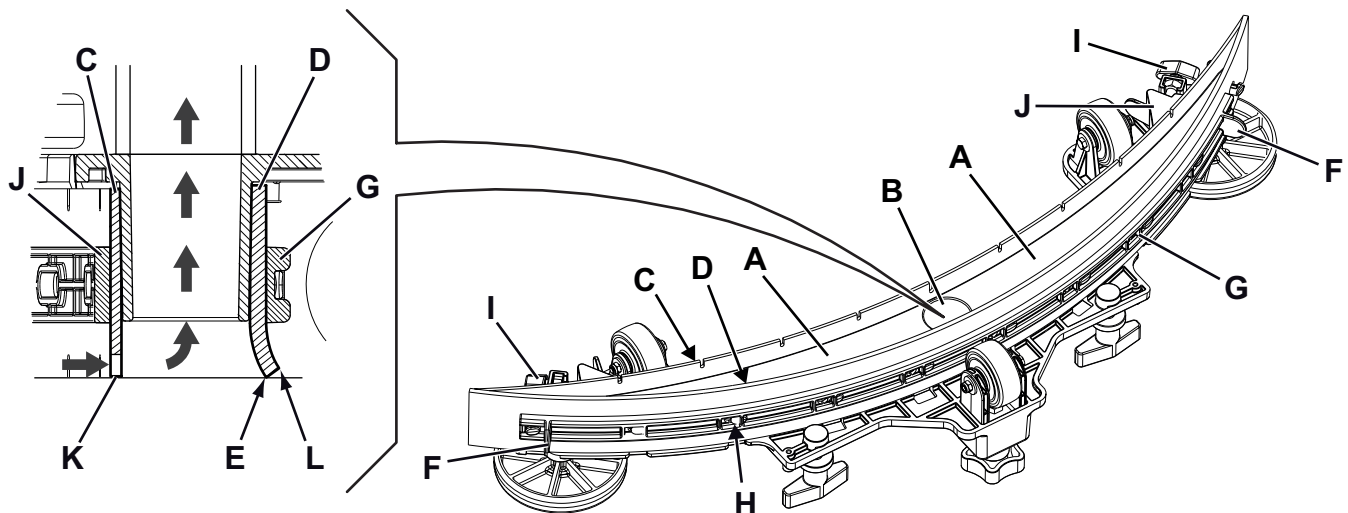

Figure 11
2. Ensure that the machine is off and the operator key (41) has been removed.
3. Loosen the handwheels (14) and remove the squeegee (29).
4. Wash and clean the squeegee. In particular, clean the compartments (A, Fig. 11) and the vacuum hole (B). Check the condition of the front (C) and rear (D) blades, ensuring there are no cuts and tears; if necessary, replace them as shown below.
2. Check the condition of the front (C, Fig. 11) and rear (D) blades, ensuring there are no cuts and tears; if necessary, replace them as shown below. Check that the front corner (E) of the rear blade is not worn; otherwise, turn the blade to replace the worn corner with one of the three remaining intact corners. If the other corners are worn too, replace the blade according to the following procedure:
- Using the tab (F), release and remove the elastic strap (G) from the fasteners (H), then turn or replace the rear blade (D).
- Unscrew the handwheels (I) and remove the strap (J), then turn or replace the front blade (C).
3. Install the squeegee (27) and screw down the handwheels (14).
- Check that the lip (K) of the front blade (C) and the lip (L) of the rear blade (D) are resting as shown in the figure.
- Use the knob (15) to make adjustments.